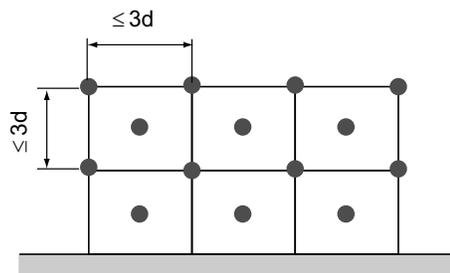
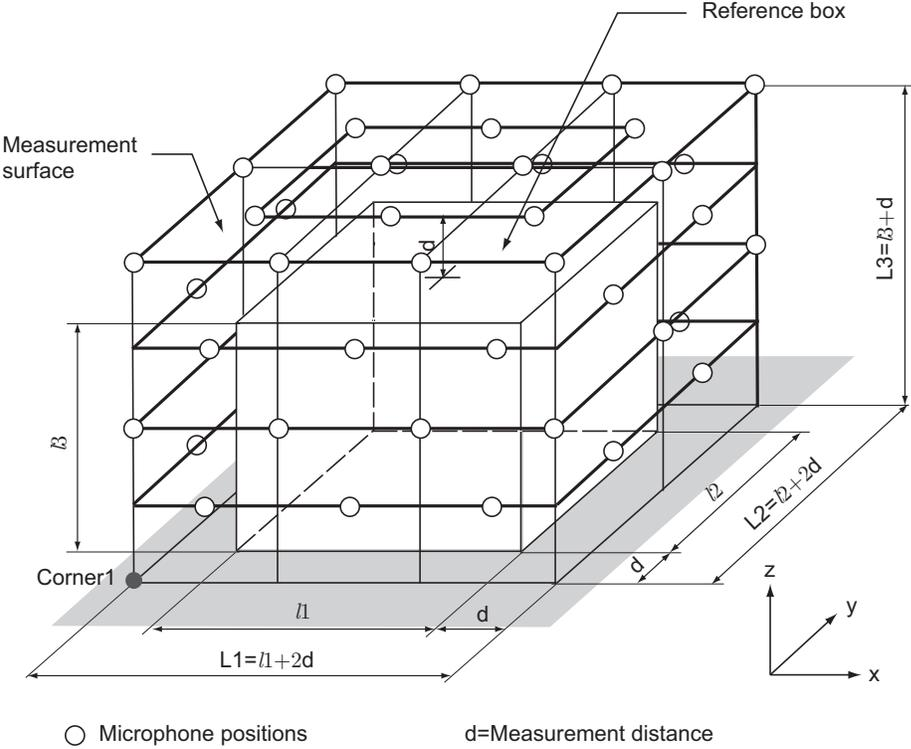

Figure 7.40 ISO3744 - Procedure for fixing microphone positions on a parallelepiped measurement surface.
Figure 7.41 ISO3744 - Parallelepiped measurement surface with microphone positions.
**Parallelepiped** Use parallelepiped measurement surface when there is only one reflecting plane. Figure 7.41 shows a parallelepiped measurement surface whose sides are parallel to those of the reference box. Click on the **Suggest** button to auto fill the measurement surface variables in agreement with the standard. Verify the input you have entered by clicking on the **Check** button. *Coustyx* checks to see if the input variables satisfy the standard requirements. If the standard requirements are not met, a message window pops up to help you make appropriate corrections.
**X-Axis** Specify the orientation of the X-axis here. See Figure 7.41 for definition.
**Y-Axis** Specify the orientation of the Y-axis here. See Figure 7.41 for definition.
**Corner1** Specify Corner1 of the parallelepiped surface here. See Figure 7.41 for definition. The parallelepiped is constructed using Corner1 as the starting point and  $L1$ ,  $L2$ ,  $L3$  as its dimensions along X, Y, Z-axis respectively.
**L1** Length of the parallelepiped in X-direction (Figure 7.41). Specify the value of  $L1$  such that it satisfies the definition,  $L1 = l1 + 2d$ , where  $l1$  is the reference box dimension in X-direction, and  $d$  is the measurement distance. The recommended value for  $d = 1\text{ m}$ .
**L2** Length of the parallelepiped in Y-direction (Figure 7.41). Specify the value of  $L2$  such that it satisfies the definition,  $L2 = l2 + 2d$ , where  $l2$  is the reference box dimension in Y-direction, and  $d$  is the measurement distance. The recommended value for  $d = 1\text{ m}$ .
**L3** Length of the parallelepiped in Z-direction (Figure 7.41). Specify the value of  $L3$  such that it satisfies the definition,  $L3 = l3 + d$ , where  $l3$  is the reference box dimension in Z-direction, and  $d$  is the measurement distance. The recommended value for  $d = 1\text{ m}$ .
**N1** Number of subdivisions in X-direction (Figure 7.41). Select the value of  $N1$  such that the length of the rectangular partial area formed by these subdivisions satisfies the criterion:  $\frac{L1}{N1} \leq 3d$ , where  $L1$  is the length of parallelepiped in X-direction, and  $d$  is the measurement distance. Refer Figure 7.40. The microphone positions are in the center of each partial area and at each corner of the partial area (excluding the corners intruding into reflecting planes).
**N2** Number of subdivisions in Y-direction (Figure 7.41). Select the value of  $N2$  such that the length of the rectangular partial area formed by these subdivisions satisfies the criterion:  $\frac{L2}{N2} \leq 3d$ , where  $L2$  is the length of parallelepiped in Y-direction, and  $d$  is the measurement distance. Refer Figure 7.40. The microphone positions are in the center of each partial area and at each corner of the partial area (excluding the corners intruding into reflecting planes).
**N3** Number of subdivisions in Z-direction (Figure 7.41). Select the value of  $N3$  such that the length of the rectangular partial area formed by these subdivisions satisfies the criterion:  $\frac{L3}{N3} \leq 3d$ , where  $L3$  is the length of parallelepiped in Z-direction, and  $d$  is the measurement distance. Refer Figure 7.40. The microphone positions are in the center of each partial area and at each corner of the partial area (excluding the corners intruding into reflecting planes).
- N1** Number of subdivisions in X-direction (Figure 7.42). Select the value of  $N1$  such that the length of the rectangular partial area formed by these subdivisions satisfies the criterion:  $\frac{L1}{N1} \leq 3d$ , where  $L1$  is the length of parallelepiped in X-direction, and  $d$  is the measurement distance. Refer Figure 7.40. The microphone positions are in the center of each partial area and at each corner of the partial area (excluding the corners intruding into reflecting planes).
- N2** Number of subdivisions in Y-direction (Figure 7.42). Select the value of  $N2$  such that the length of the rectangular partial area formed by these subdivisions satisfies the criterion:  $\frac{L2}{N2} \leq 3d$ , where  $L2$  is the length of parallelepiped in Y-direction, and  $d$  is the measurement distance. Refer Figure 7.40. The microphone positions are in the center of each partial area and at each corner of the partial area (excluding the corners intruding into reflecting planes).
- N3** Number of subdivisions in Z-direction (Figure 7.42). Select the value of  $N3$  such that the length of the rectangular partial area formed by these subdivisions satisfies the criterion:  $\frac{L3}{N3} \leq 3d$ , where  $L3$  is the length of parallelepiped in Z-direction, and  $d$  is the measurement distance. Refer Figure 7.40. The microphone positions are in the center of each partial area and at each corner of the partial area (excluding the corners intruding into reflecting planes).
- N1** Number of subdivisions in X-direction (Figure 7.43). Select the value of  $N1$  such that the length of the rectangular partial area formed by these subdivisions satisfies the criterion:  $\frac{L1}{N1} \leq 3d$ , where  $L1$  is the length of parallelepiped in X-direction, and  $d$  is the measurement distance. Refer Figure 7.40. The microphone positions are in the center of each partial area and at each corner of the partial area (excluding the corners intruding into reflecting planes).
- N2** Number of subdivisions in Y-direction (Figure 7.43). Select the value of  $N2$  such that the length of the rectangular partial area formed by these subdivisions satisfies the criterion:  $\frac{L2}{N2} \leq 3d$ , where  $L2$  is the length of parallelepiped in Y-direction, and  $d$  is the measurement distance. Refer Figure 7.40. The microphone positions are in the center of each partial area and at each corner of the partial area (excluding the corners intruding into reflecting planes).
- N3** Number of subdivisions in Z-direction (Figure 7.43). Select the value of  $N3$  such that the length of the rectangular partial area formed by these subdivisions satisfies the criterion:  $\frac{L3}{N3} \leq 3d$ , where  $L3$  is the length of parallelepiped in Z-direction, and  $d$  is the measurement distance. Refer Figure 7.40. The microphone positions are in the center of each partial area and at each corner of the partial area (excluding the corners intruding into reflecting planes).